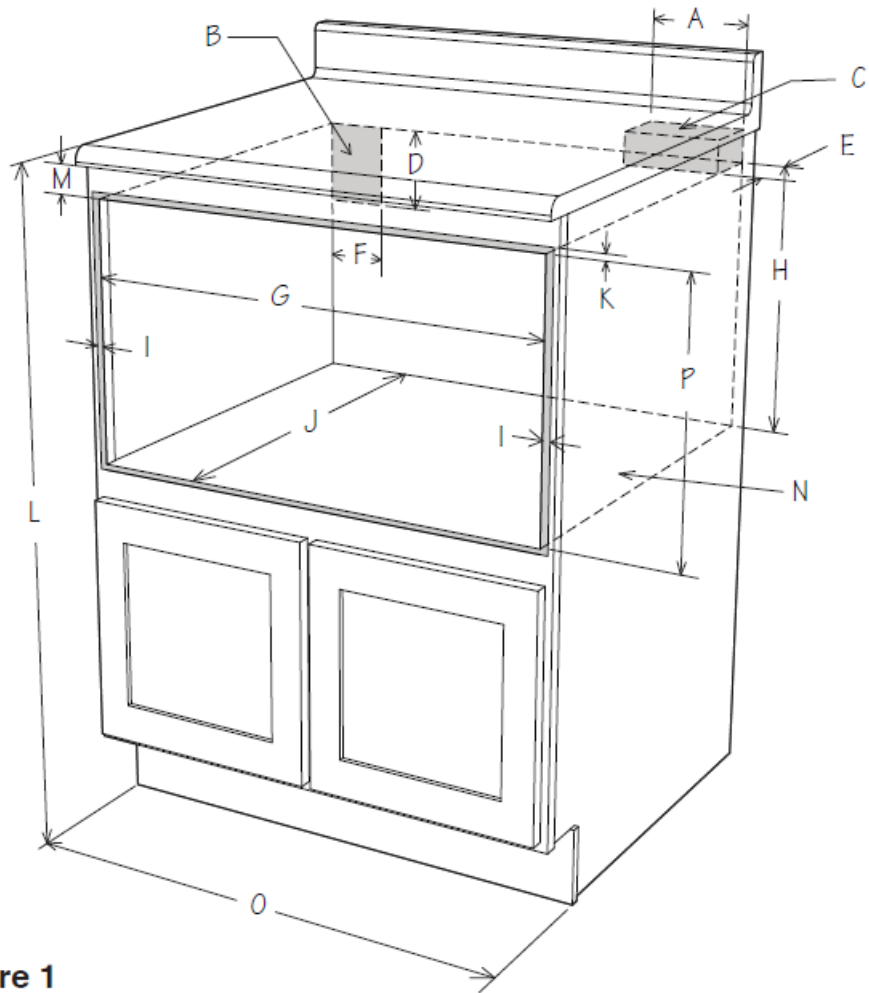

Figure 1
Refer to Figures 1 and 2 for detailed measurements and clearances:
For SAFETY CONSIDERATIONS do not install drawer in any combustible cabinetry, which is not in accord with the stated clearances and dimensions on pages 2 – 5. See Figures 1 – 7.
- Dimensions that are shown in Figure 1 must be used. Given dimensions provide minimum clearance. Locate electrical outlet in the shaded area in the upper left-hand corner of the cutout. See Figure 9.
Figures 1 and 2 contain many Microwave Drawer measurements for reference when planning the drawer's location. Your oven can be built into a cabinet or wall as a stand-alone unit. It can also be installed under gas or electric wall ovens, the SuperSteam oven models SSC2489DS & SSC2489GS or under the cooktop models SDH3042DB, SDH3652DB, SCH2443GB, SCH3043GB, SCR3041FB, SCR3042GB, SCR2442FB, SCR3041GB and SCR3042FB.
To reduce the risk of tipping of the drawer, the Anti-Tip block must be properly installed located $14\frac{13}{16}$ -inches above the floor on which the Microwave Drawer will sit. The 6-inch Anti-Tip block must be provided by the installer. See Figure 1. The Anti-Tip block prevents serious injury that might result from spilled hot liquids. If the Microwave Drawer is ever moved to a different location, the Anti-Tip block must also be moved and installed. When installed to the wall, make sure that the screws completely penetrate the drywall and are secured in wood or metal so that